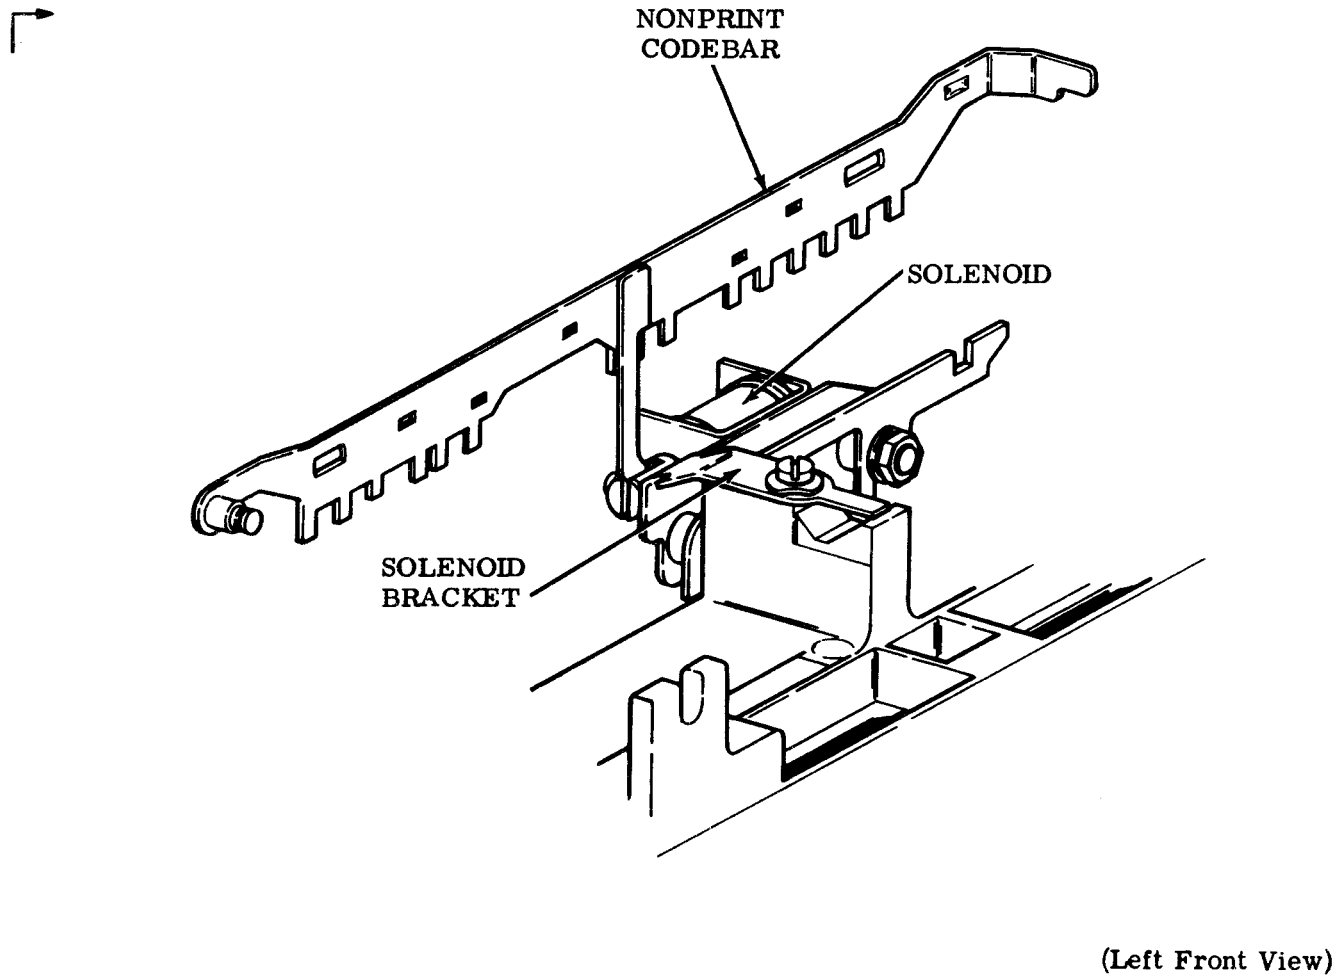

Figure 40 - Solenoid Operated Print Nonprint Mechanism
5.03 The solenoid operated print nonprint mechanism shown in Figure 40 is a remote-controlled device consisting of a bracket